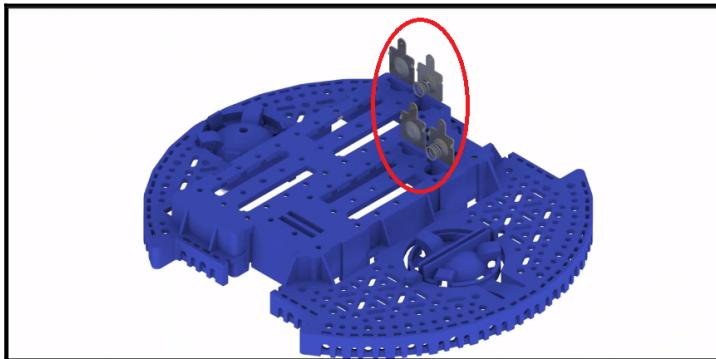

Figure 6.9: Connecting the individual battery contact terminals. Image courtesy of Pololu—<https://www.pololu.com>
2. Turn the chassis over, and place the four individual battery contact terminals into the chassis from the top of the battery box (*Figure 6.9*):